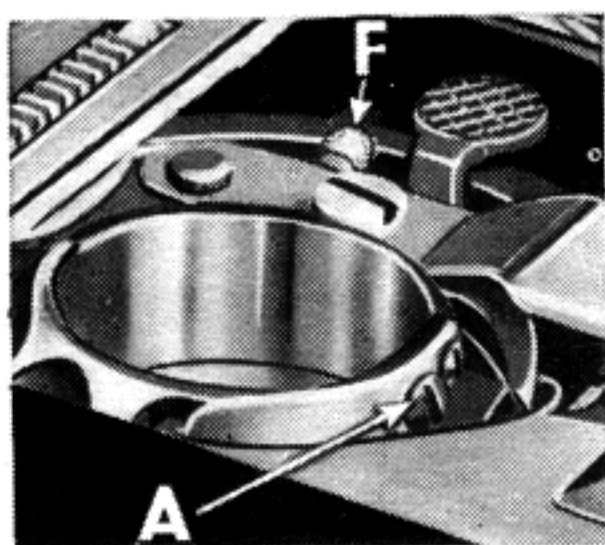

Fig. 13
Tension on bobbin thread is regulated by screw A, Fig. 13, nearest center of tension spring. Turn screw A over to right to increase tension; turn screw to left to decrease tension.
- Apply a few drops of oil to the felt pad **F**, Fig. 13.